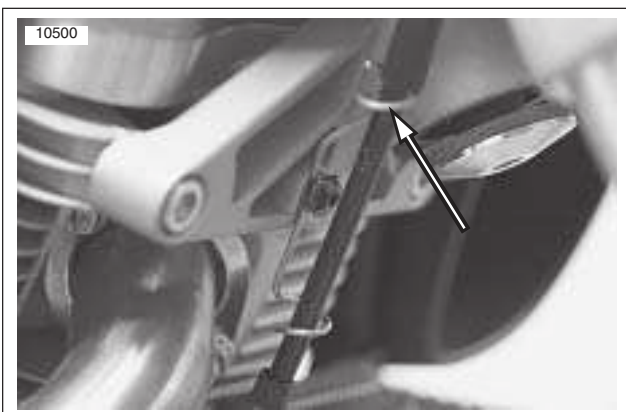

Figure 2-94. Clutch Cable Wire Form
4. See Figure 2-94. Remove wire form from front isolator.